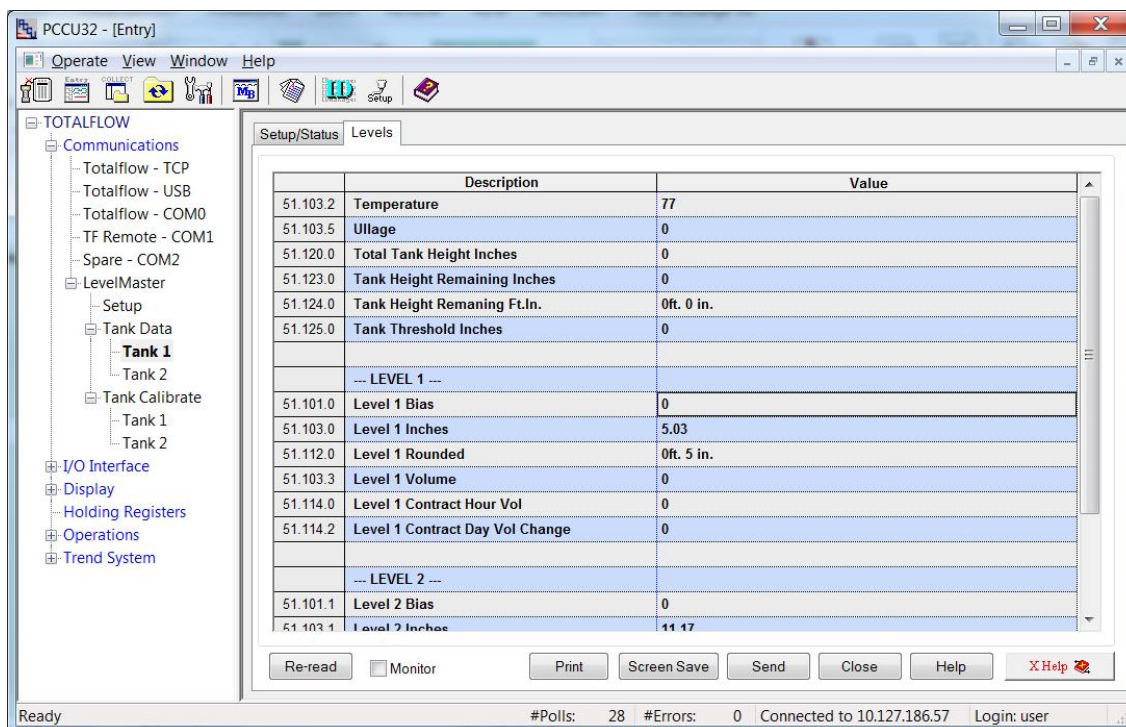

Figure 56: Adding level bias from PCCU
2. Select the **Levels** tab (Figure 56).